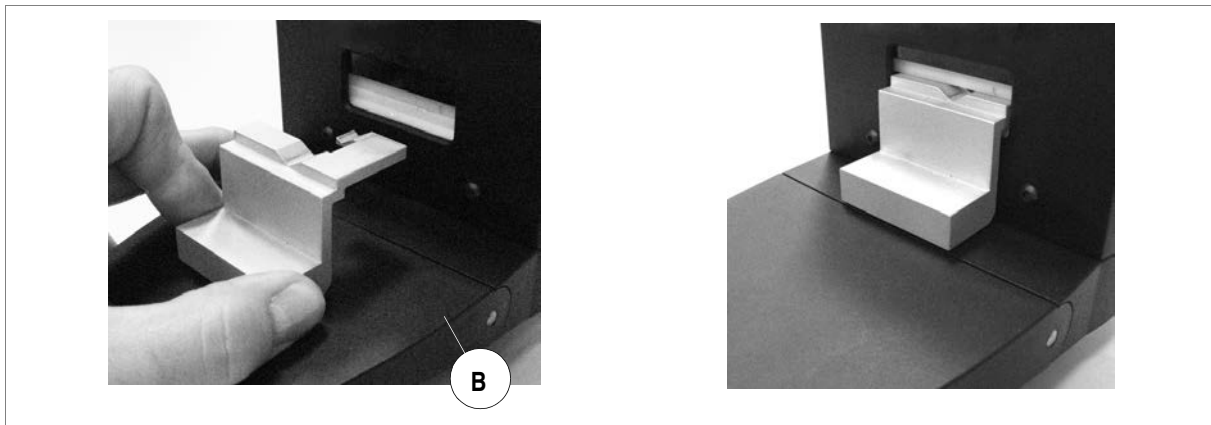

Fig. 20
- 1) Lower the lever (B) on the clamp and fit the adapter all the way up against the illuminators (fig. 20).